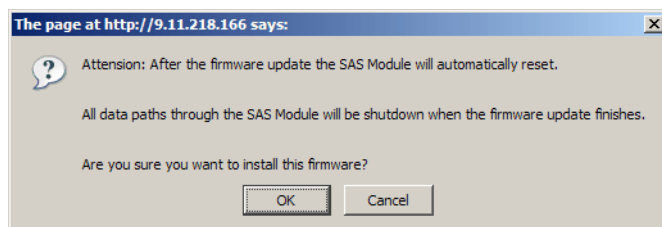

Figure 18-9 SAS Connectivity Module - Installation confirmation
- Click **Install** to install the new file. An installation confirmation window opens, as shown in Figure 18-9.